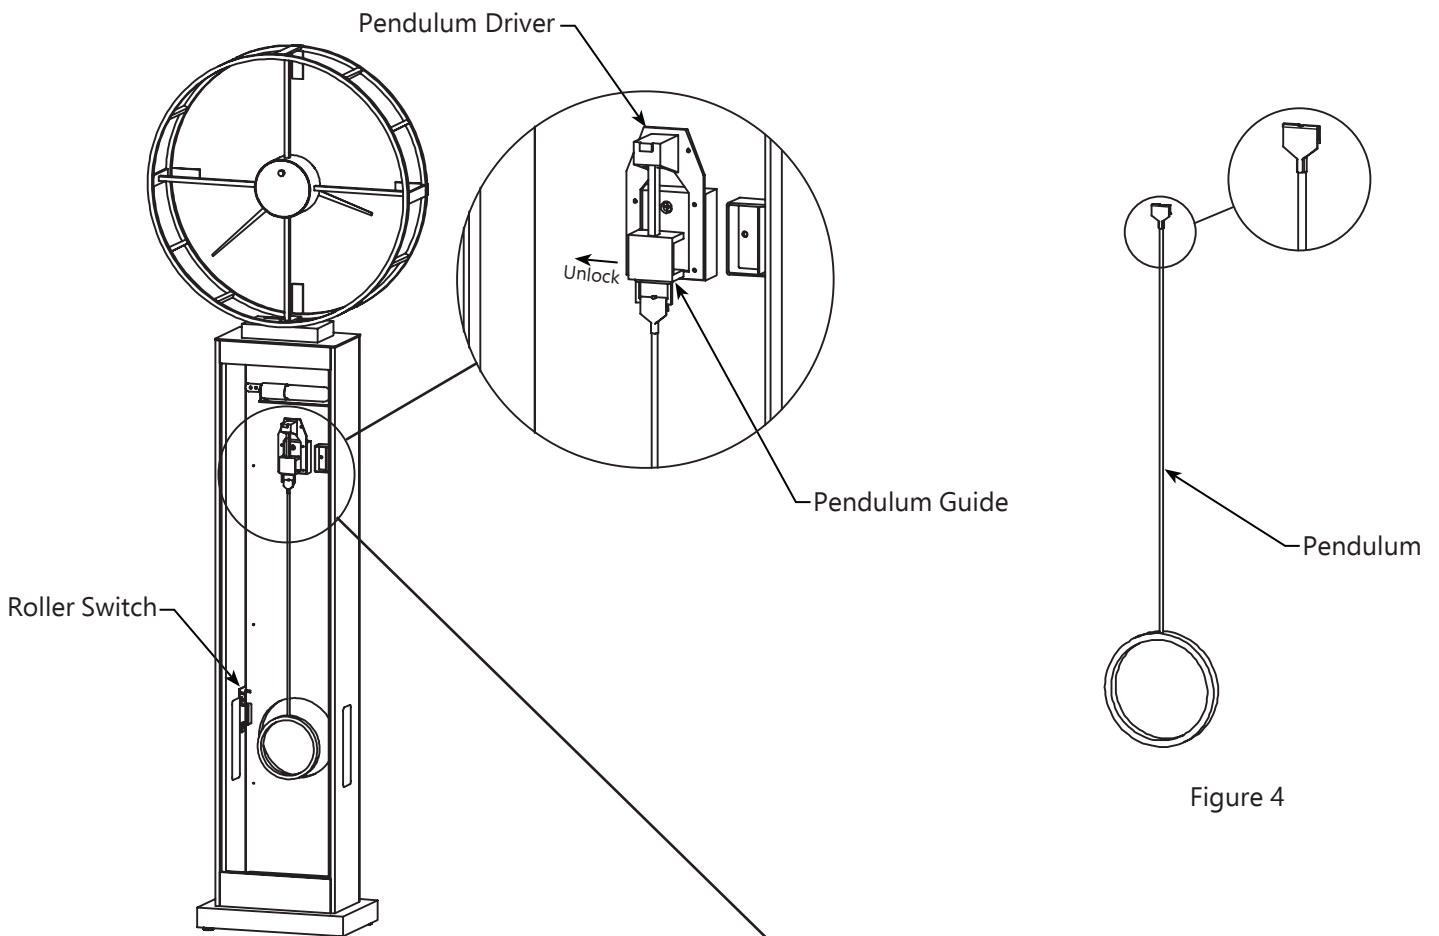
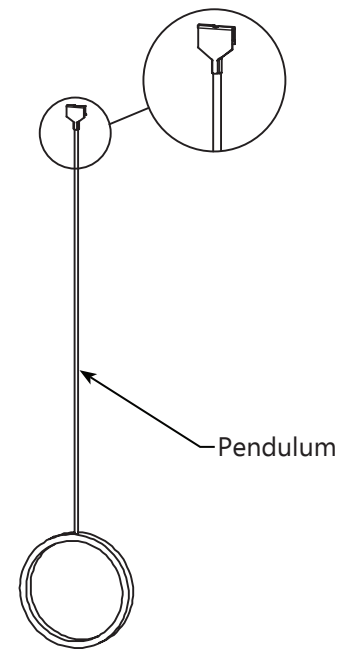

Figure 3
Figure 4
- a. Locate the roller switch inside the Clock Body to turn the lamp on and off (Figure 1 & Figure 3).
- a. Release the Pendulum Guide from the Transport-Locking Pin by gently pushing it sideways, allowing the guide to hang freely (Figure 3).
- b. Hang the Pendulum by the Hook (Figure 4) on the Pendulum Guide. (Figure 3).